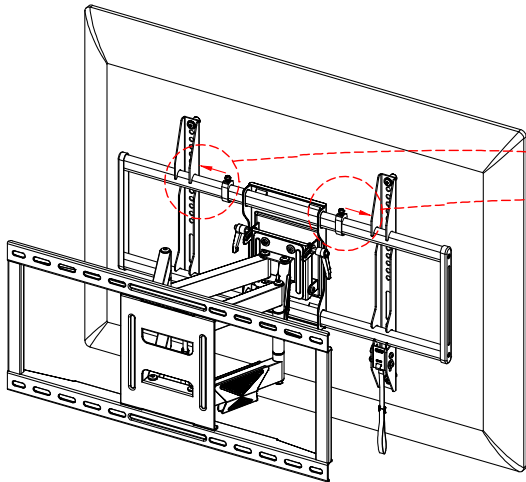

Figure 5
1. Find the two Stopping Blocks located on the Mounting Plate near the center as shown in Figure 5.